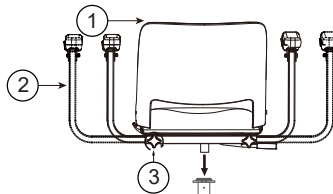

Figure 13 :
2. Move the armrests to the desired position and retighten the screws to adjust the space between them (see figure 13) .